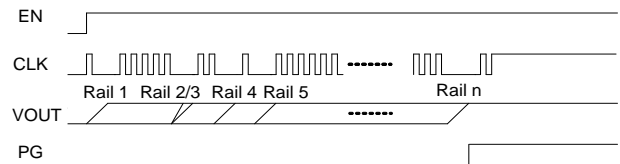
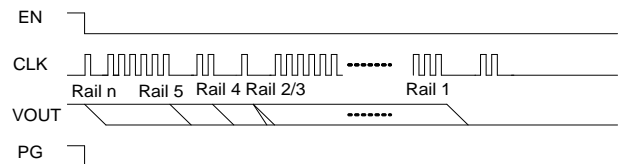

Figure 5: Soft Start when CLK Pulls Down (Pausing)
Figure 6: Soft Shutdown when CLK Pulls Down (Pausing)
- If CLK_PAUSE_EN = 1, the master/slave PMIC pulls the CLK pin down during the soft start/stop of any power rail(s). Figure 5 shows when CLK pauses during start-up. Figure 6 shows when CLK pauses during soft shutdown.